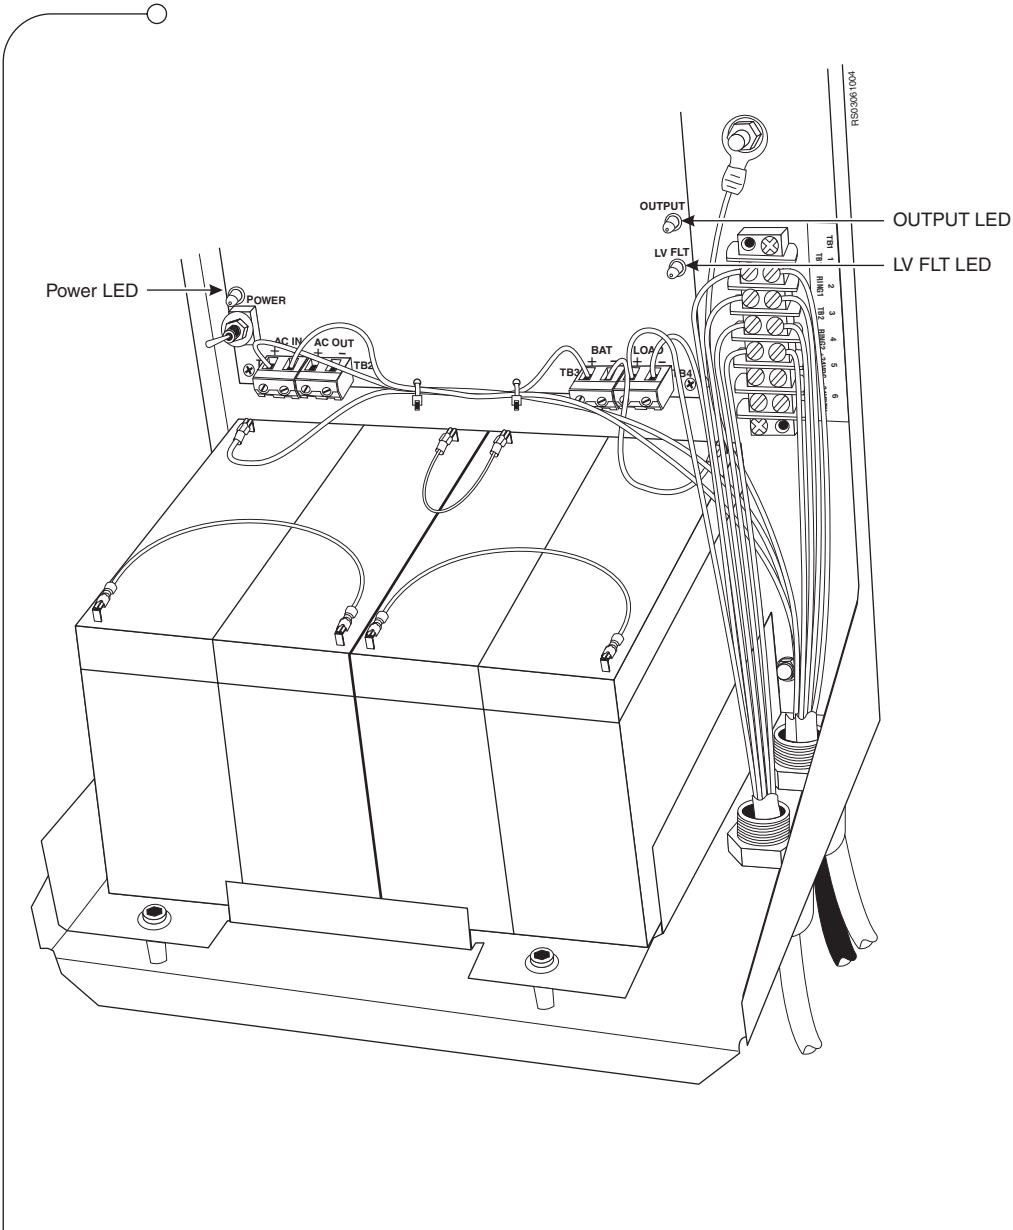

Figure 3.22 STS Power Pack LEDs
- The STS Power Pack LEDs are shown in Figure 3.22 on page 71 and the LED states are listed in Table 3.6.